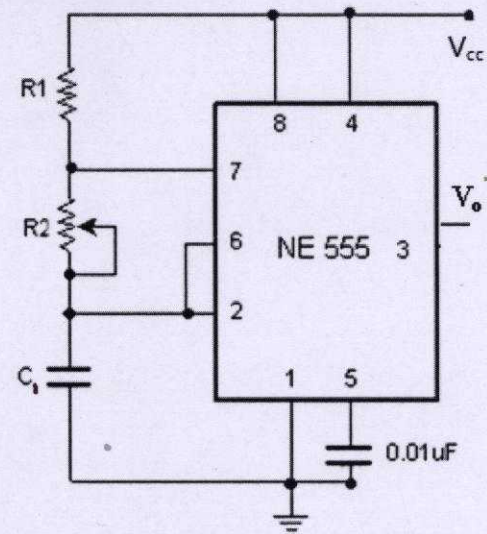

Fig. 9.4 Astable mode of operation using IC555
(shown in Fig.9.4) produces a 'rectangular wave'. This is a digital waveform with sharp transitions between low (0V) and high (+V_{cc}). The high (ON) and low (OFF) durations are given by